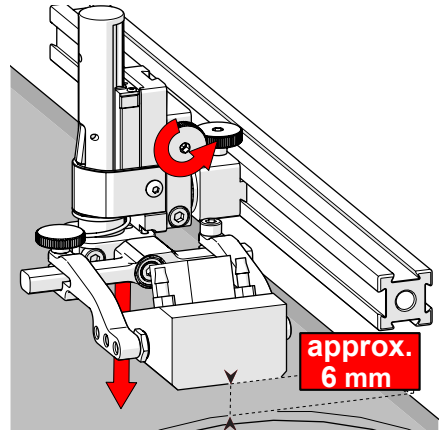

Fig. 119 - Lower toward scan surface
2. Loosen the vertical adjustment knob and slide the probe holder down until the wedge is approximately 6 mm ($\frac{1}{4}$ in) above inspection surface (Fig. 119).